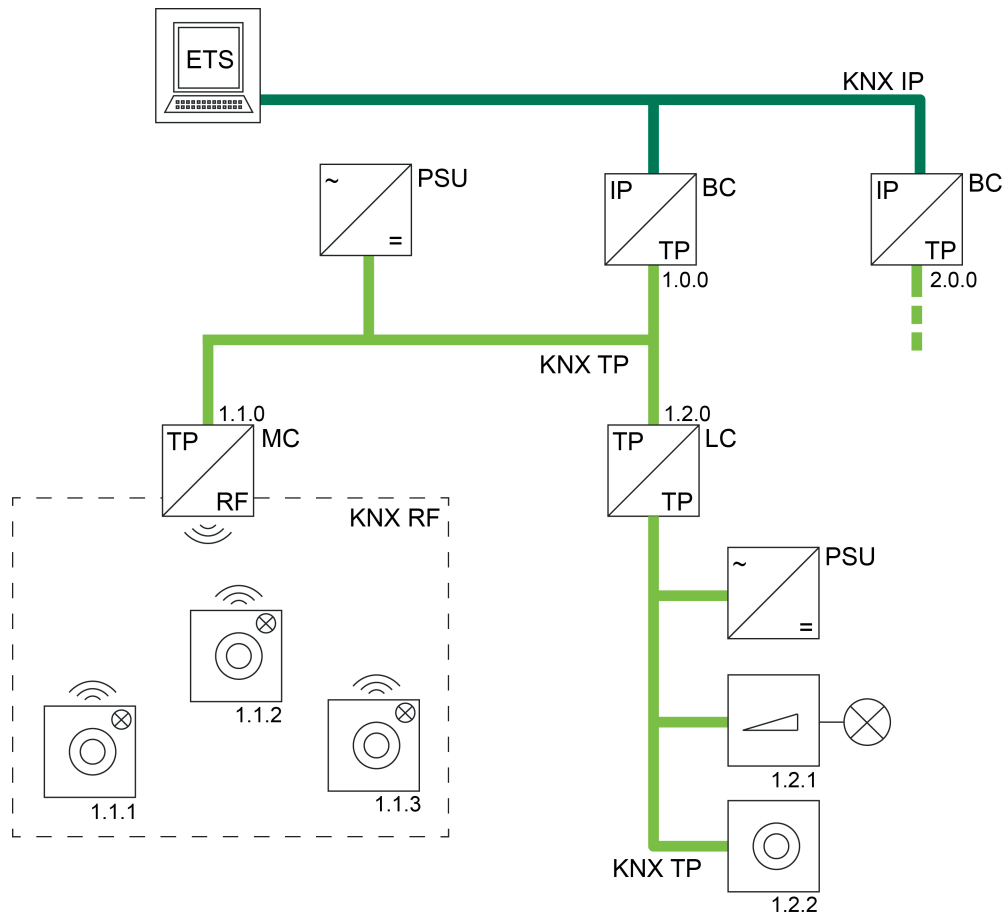

Figure 22: Example of a possible KNX topology with one KNX IP connection of the ETS (KNX/net IP)
- Use of a KNX IP data interface (KNX/net IP) (Figure 22):